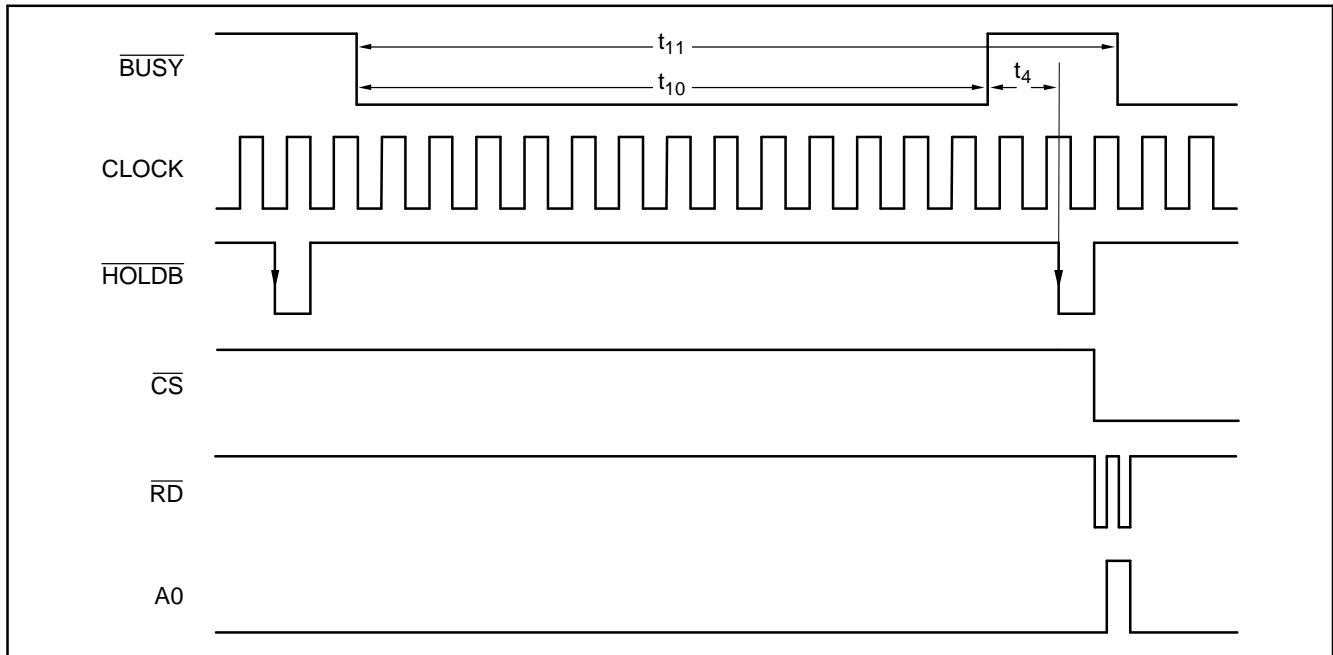
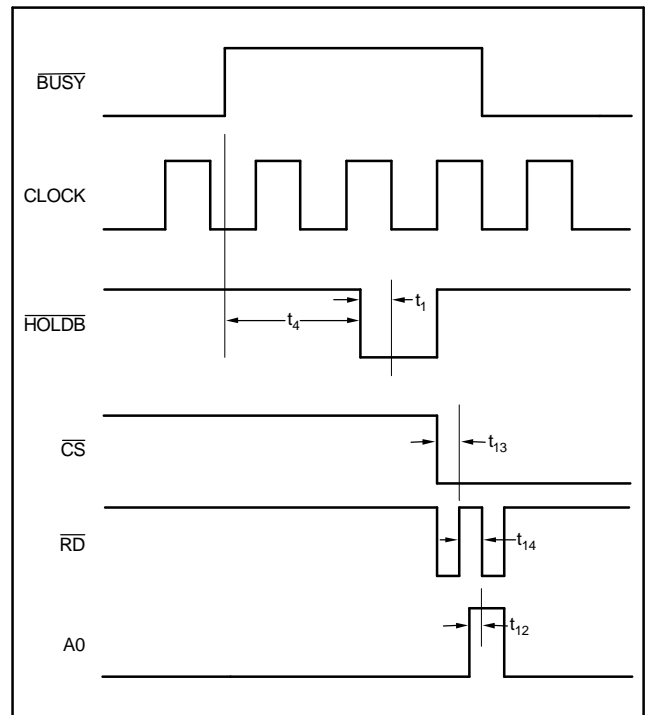

Figure 27. Timing of One Conversion Cycle
Figure 28. Timing for Reading Data
**BUSY**—Busy goes low when the internal A/D converters start a new conversion. It stays low as long as the conversion is in progress (see Figure 27, 13 clock-cycles,  $t_{10}$ ) and rises again after the data is latched to the output register. With Busy going high, the new data can be read. It takes at least 16 clock cycles (see Figure 27,  $t_{11}$ ) to complete conversion.
Once a particular hold signal goes low, further impulses of this hold signal are ignored until the conversion is finished or the part is reset. When the conversion is finished ( $\overline{\text{BUSY}}$  signal goes high), the sampling switches will close and sample the selected channel. The start of the next conversion must be delayed to allow the input capacitor of the ADS7864 to be fully charged. This delay time depends on the driving amplifier, but should be at least 175ns (see Figure 27,  $t_4$ ).
The ADS7864 can also convert one channel continuously, as it is shown in Figure 27 with channel B. Therefore,  $\overline{\text{HOLDA}}$  and  $\overline{\text{HOLDC}}$  are kept high all the time. To gain acquisition time, the falling edge of  $\overline{\text{HOLDB}}$  takes place just before the falling edge of clock. One conversion requires 16 clock cycles. Here, data is read after the next conversion is initiated by  $\overline{\text{HOLDB}}$ . To read data from channel B, A1 is set high and A2 is low. As A0 is low during the first reading ( $\text{A2 A1 A0} = 010$ ) data B0 is put to the output. Before the second  $\overline{\text{RD}}$ , A0 switches high ( $\text{A2 A1 A0} = 011$ ) so data from channel B1 is read.
**READING DATA ( $\overline{\text{RD}}$ ,  $\overline{\text{CS}}$ )**—In general, the channel/data outputs are in tristate. Both  $\overline{\text{CS}}$  and  $\overline{\text{RD}}$  have to be low to enable these outputs.  $\overline{\text{RD}}$  and  $\overline{\text{CS}}$  have to stay low together for at least 30ns (see Figure 28,  $t_{13}$ ) before the output data is valid.  $\overline{\text{RD}}$  has to remain high for at least 30ns (see Figure 28,  $t_{14}$ ) before bringing it back low for a subsequent read command.
With (A2 A1 A0) = 000 to 101 a particular channel can directly be addressed (see Table 3 and Figure 27). The channel address should be set at least 10ns (see Figure 28,  $t_{12}$ ) before the falling edge of  $\overline{RD}$  and should not change as long as  $\overline{RD}$  is low.